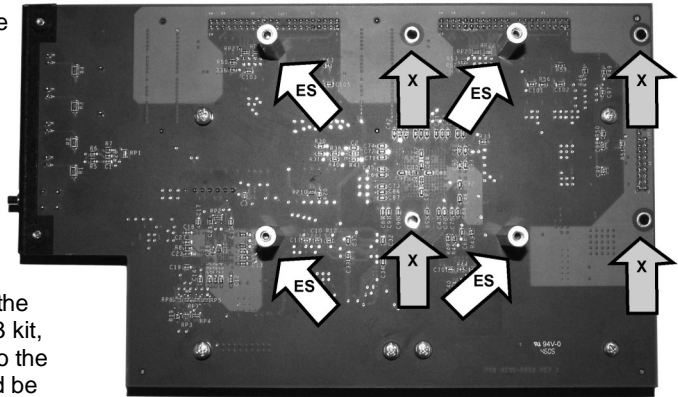

Fig. M3-5: Mount standoffs to M3 board
There are two sets of mounting holes on the M3 board. One set is for mounting the M3 on the ESI-200 main board (referenced by the **gray** arrows marked “X” in Fig. M3-5); and the other set aligns with the holes on the ESI-600 main board (the **white** arrows marked “ES” in Fig. M3-5).
2. Using four of the screws and four of the nylon washers that came with the M3 kit, install the four 1¼-inch standoffs onto the M3 board. The nylon washers should be placed between the M3 board and the standoffs. The standoffs should be mounted on the side of the M3 board **without** the cable connectors. Refer to Fig. M3-5.